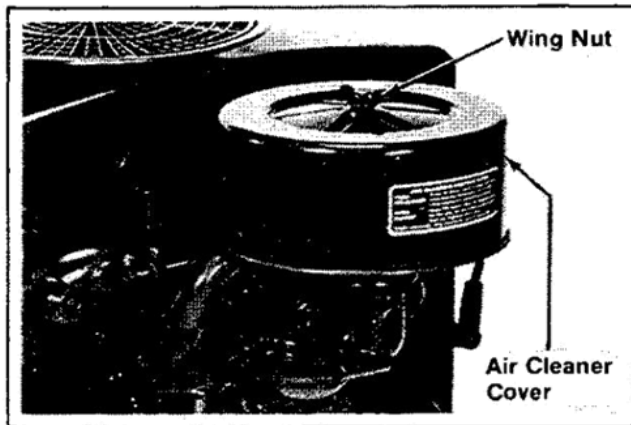

Figure 11-58. Installing Air Cleaner Cover.
3. Install the air cleaner cover and wing nut. Tighten the wing nut 1/2 to 1 full turn after nut contacts cover. Do not overtighten. Refer to Figure 11-58.